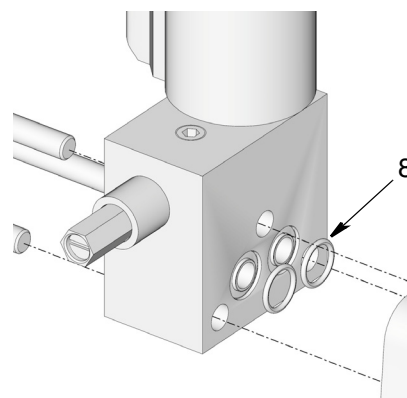

FIG. 4
7. Grease o-rings (8) and install o-rings in vent valve block as shown in FIG. 4.